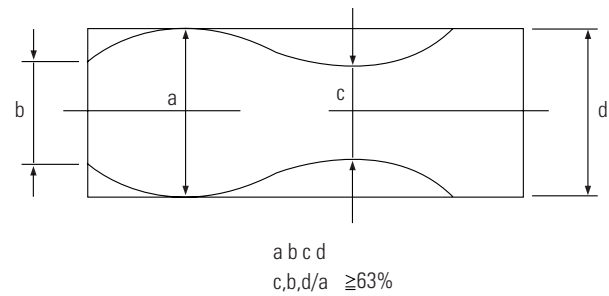

Fig. 3-5-4 Envelope Waveform Adjustment
- 3) Make sure the video envelope waveform (at its minimum) meets the specification shown in Fig. 3-5-4.